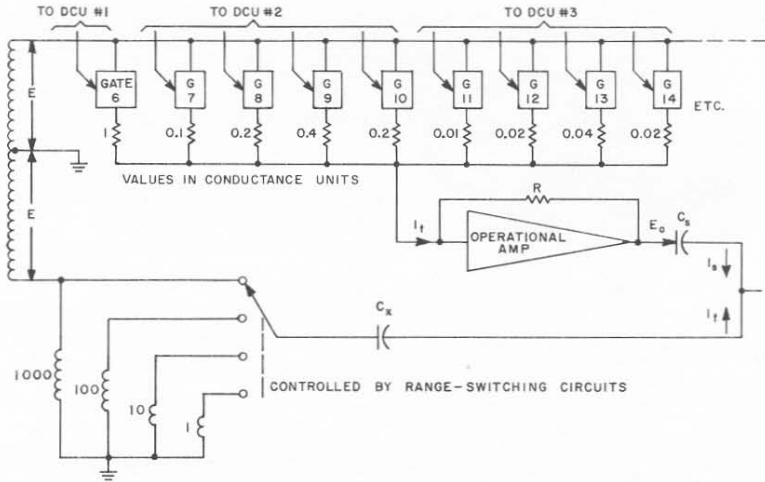

Figure 6. Resistive current-adding network used to control voltage on standard capacitor.
0.01% of full scale. Figure 6 illustrates the principle of the resistive current-adding network used for this purpose. The bridge voltage  $E$  is applied through transistor gating circuits to a series of weighted conductances. There are four conductances for each full counting decade, weighted in a 1-2-4-2 series to match the decade output code. If, for example, the unknown capacitor is  $1.37 \mu\text{F}$ , the counting decades will continue to operate until the transistor gating circuits connect conductances weighted 1, 0.2, 0.1, 0.01, 0.02, and 0.04 (a total of 1.37) to the bridge transformer. When this condition is reached, a current of 1.37 units flows to the input of an operational amplifier and feedback resistor, which converts the current into 1.37 units of voltage to balance the bridge.